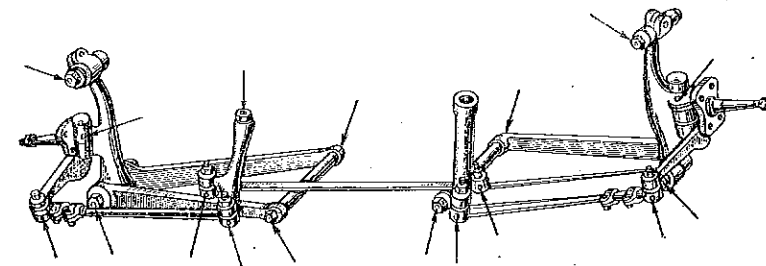

Fig. 6. Lubrication Points of King Pins, Front Suspension and Steering Rod Joints
3. Every 500 km lubricate the king pins (two lubricator fittings, Fig. 6).